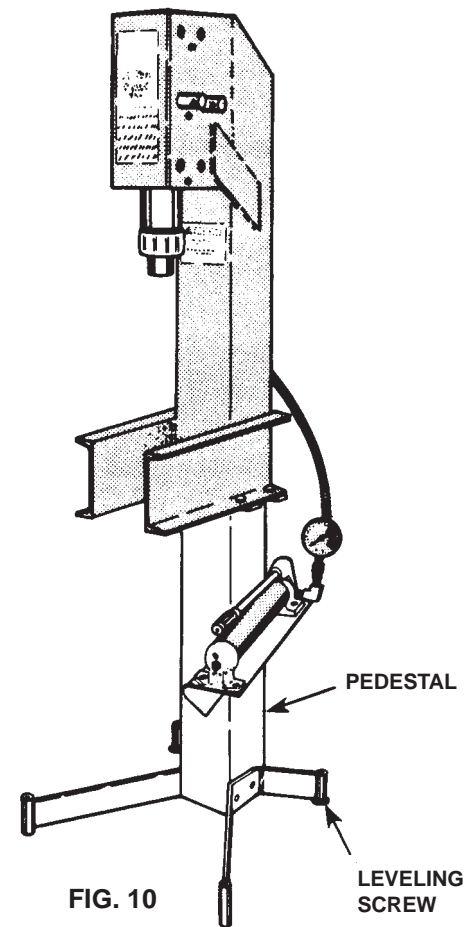

FIG. 10
6. After the assembled press/pedestal has been moved to its desired location, level the machine using two leveling screws shown in FIG. 10.